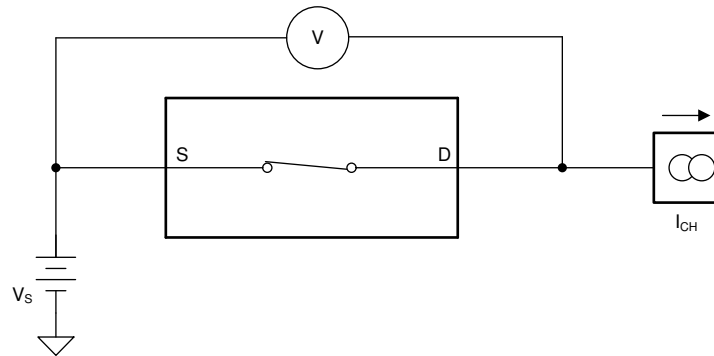

Figure 17. On-Resistance Measurement Setup
The on-resistance of the TMUX6111, TMUX6112, and TMUX6113 is the ohmic resistance across the source (Sx) and drain (Dx) pins of the device. The on-resistance varies with input voltage and supply voltage. The symbol  $R_{ON}$  is used to denote on-resistance. The measurement setup used to measure  $R_{ON}$  is shown in Figure 17. Voltage (V) and current ( $I_{CH}$ ) are measured using this setup, and  $R_{ON}$  is computed as shown in Equation 1: